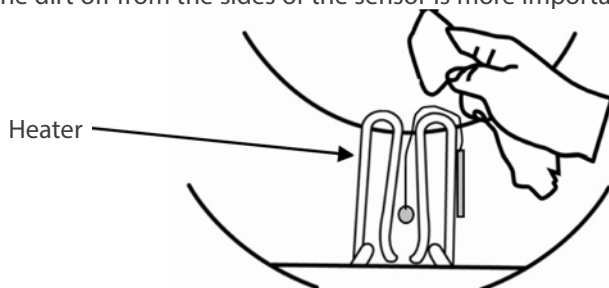

Fig. 36
- Use the non-corrosive cleaner and stiff bristled brush or sponge to clean the heater in the chamber as Figure 36.